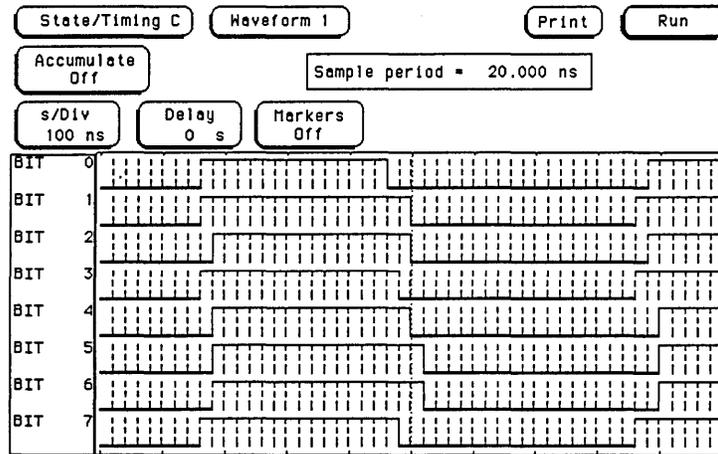

Figure 3-37. Timing Screen
6. Touch **Run**, then drag finger to **Single**. The analyzer will acquire data and show glitches on channels under test as in figure 3-37.